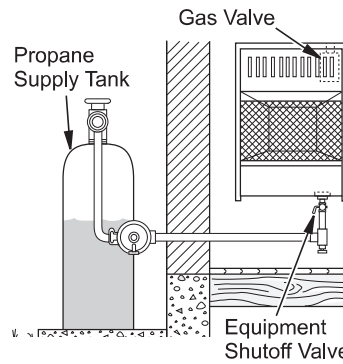

Figure 18 - Checking Gas Joints
3. Check all joints from gas supply to equipment shutoff valve (see Figure 18). Apply a noncorrosive leak detection fluid to all joints. If bubbles form, there is a leak.
4. Check all joints from equipment shutoff valve to control valve (see Figure 18). Apply a noncorrosive leak detection fluid to all joints. Bubbles forming show a leak.